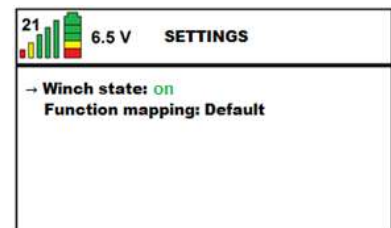

Figure 46
- Then open **settings** by pressing the ✓ button. Now move the arrow on the screen to **winch state** with the ▼ button. Then press the ► button to set the **winch state** to **ON** (see *figure 46*).